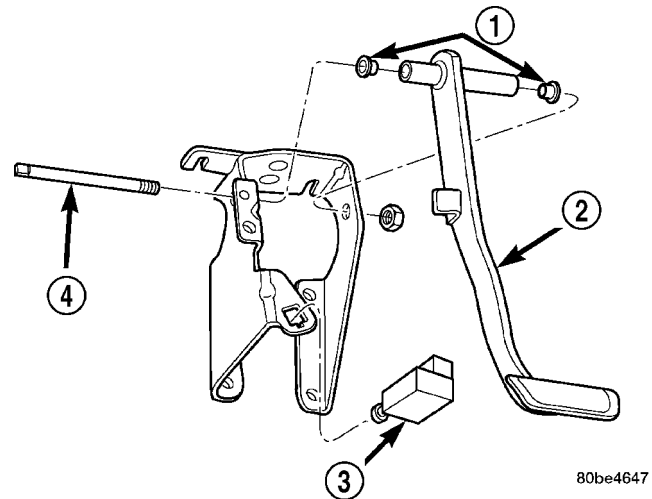
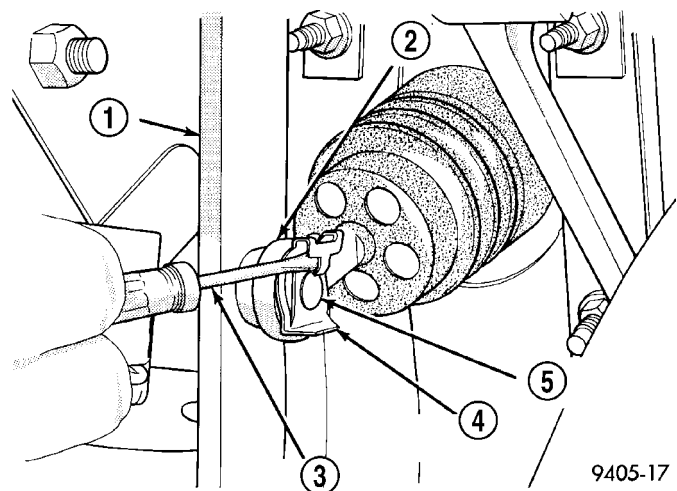

Fig. 70 Brake Pedal
Fig. 71 Brake Pedal Retaining Clip
A suspended type brake pedal is used on this vehicle (Fig. 70). The pedal pivots on a shaft mounted in the pedal support bracket under the instrument panel. The pedal also connects to the power brake booster input rod. The pedal ratio is 3.44:1.
(1) Disconnect and isolate the remote ground battery cable from the ground stud on the right strut tower.
(2) Remove the brake lamp switch from its bracket (Fig. 70). The brake lamp switch is removed by depressing and holding the brake pedal while rotating brake lamp switch in a counterclockwise direction approximately 30 degrees. Pull the switch rearward and remove it from its mounting bracket.
(3) Remove the retaining clip from the brake pedal pin securing the power brake booster to the pedal using following procedure (Fig. 71). Position a small screwdriver between the center tang on the retaining clip and the brake pedal pin. Rotate blade of screwdriver enough so center tang on retaining clip can pass over end of brake pedal pin, then pull retaining clip off brake pedal pin.
(4) Remove the booster input rod from the brake pedal pin.
(5) Remove the nut from the brake pedal pivot shaft (Fig. 70). The pivot shaft has a flat on it to hold while the nut is removed.
(6) Remove the brake pedal pivot shaft from the brake pedal and pedal mounting bracket.
(7) Remove the brake pedal with bushings from mounting bracket (Fig. 70).
(1) Make sure the pedal has a properly installed bushing on each side of the pedal (Fig. 70).
(2) Lubricate the brake pedal pivot shaft and brake pedal bushings using Mopar Lubriplate or an equivalent.
(3) Install the brake pedal in the pedal bracket (Fig. 70). Align the hole in brake pedal with the pivot shaft holes in the pedal bracket.
(4) Install the brake pedal shaft (Fig. 70).
(7) Install a **new** retaining clip (Fig. 71) on the brake pedal pin.
(8) Using Mopar Lubriplate or an equivalent, lightly lubricate the surface of the brake pedal striker where the plunger of the brake lamp switch contacts it.
(9) Hold brake lamp switch firmly in one hand. Using other hand, pull outward on the plunger of the brake lamp switch until it has ratcheted out to its fully extended position.
(10) Install the brake lamp switch in the brake pedal bracket (Fig. 70). Install it using the following procedure. Depress the brake pedal as far down as possible. Then while holding brake pedal down, align the index key on switch with notch in square hole of mounting bracket. When the switch is fully installed into the bracket, rotate the switch in a clockwise direction approximately 30 degrees until it locks into place.